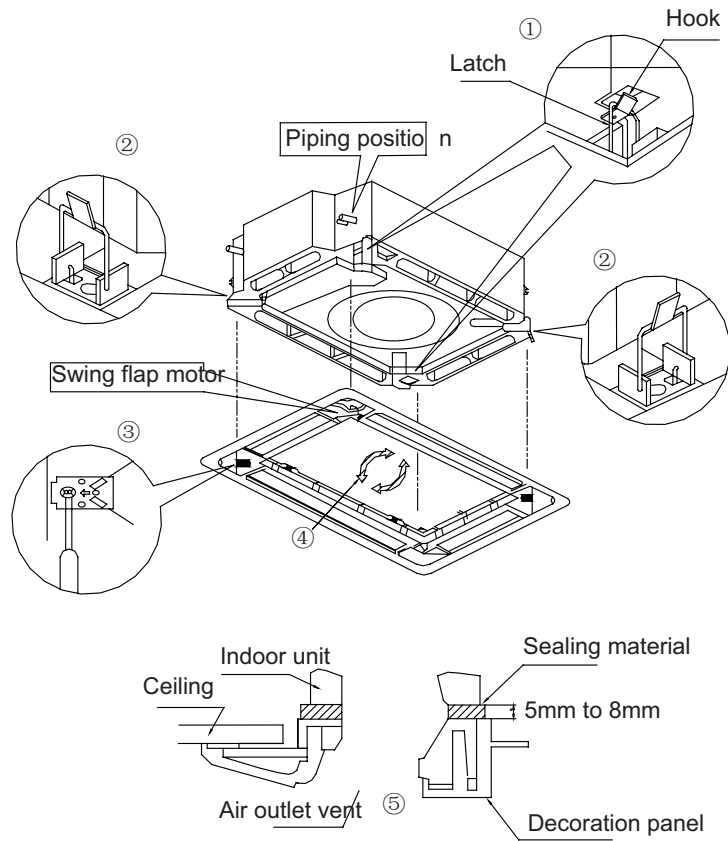

Fig. 4
(1). Set the panel to the indoor unit body by matching the position of the swing flap motor of the panel to the piping position of the panel of the indoor unit as shown in Fig. 4.
①. Install the panel on the indoor unit temporarily. When installing, hang the latch on the hook that is located on the opposite side of the swing flap on the panel of the indoor unit. (2 positions)
②. Hang the remaining 2 latches to the hooks on the sides of the indoor unit. (Be careful not to let the swing motor lead wire get caught in the sealing material.)
③. Screw the 4 hexagon head screws under the latches inward by about 15mm. (The panel would rise)
④. Adjust the panel by turning it toward the direction pointed by the arrow as shown in Fig. 4 so that the panel can match the ceiling very well.
⑤. Tighten the screws until the thickness of the sealing material between the panel and the indoor unit is reduced to 5-8mm.